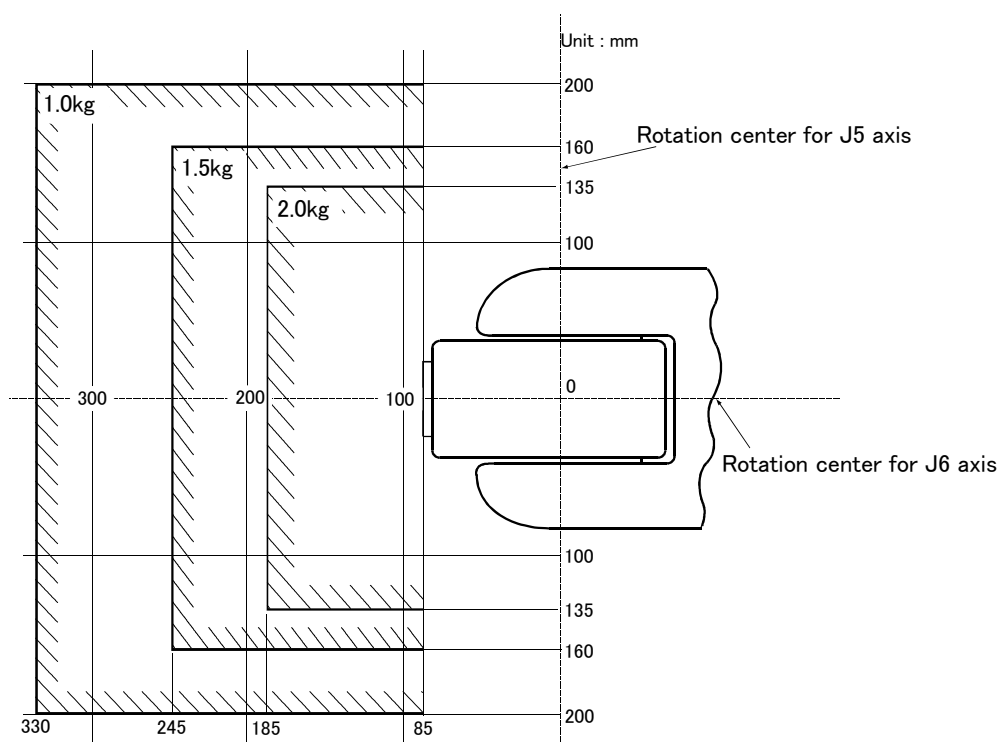
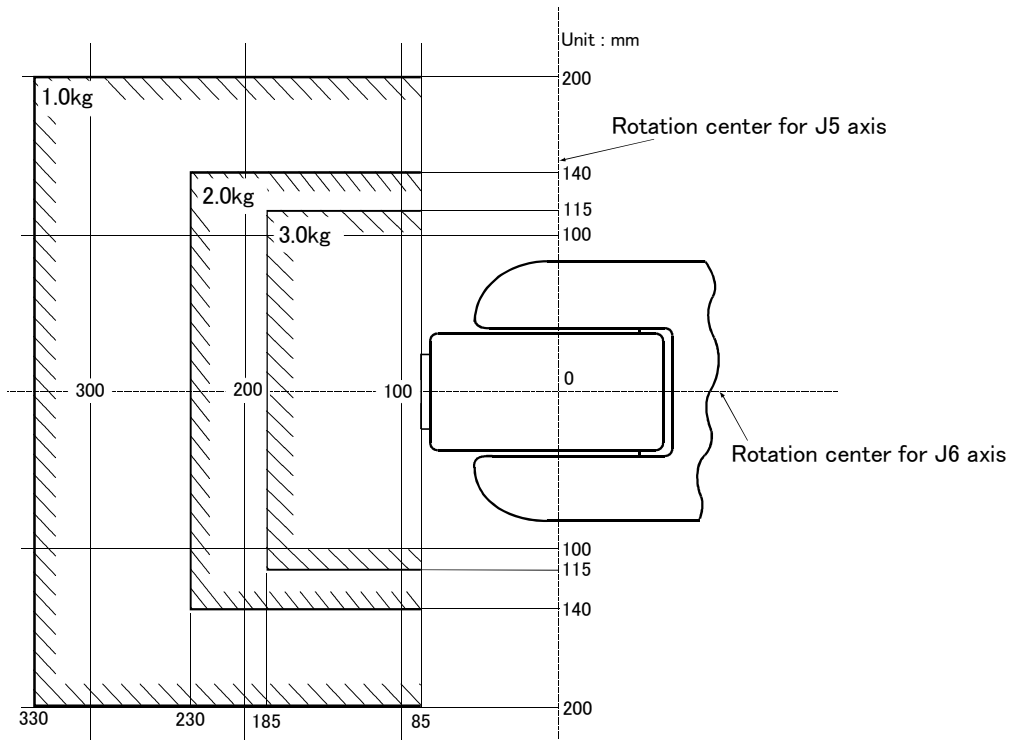

Fig.2-2 : Position of center of gravity for loads (for loads with comparatively small volume) : RV-2A/2AM/2AC-S\*
Fig.2-3 : Position of center of gravity for loads(for loads with comparatively small volume): RV-3AJ/3AJM/3AJC-S\*
- (1) The tooling should have the value less or equal than the smaller of the tolerable inertia and the tolerable moment found in Page 5, "Table 2-1 : Standard specifications of robot arm".
- (2) Fig. 2-2 and Fig. 2-3 shows the distribution dimensions for the center of gravity in the case where the volume of the load is relatively small. Use this figure as a reference when designing the tooling.
- (3) When the load is not mass, but force, you should design the tooling so that it does not exceed the value for allowable moment described in Page 5, "Table 2-1 : Standard specifications of robot arm".